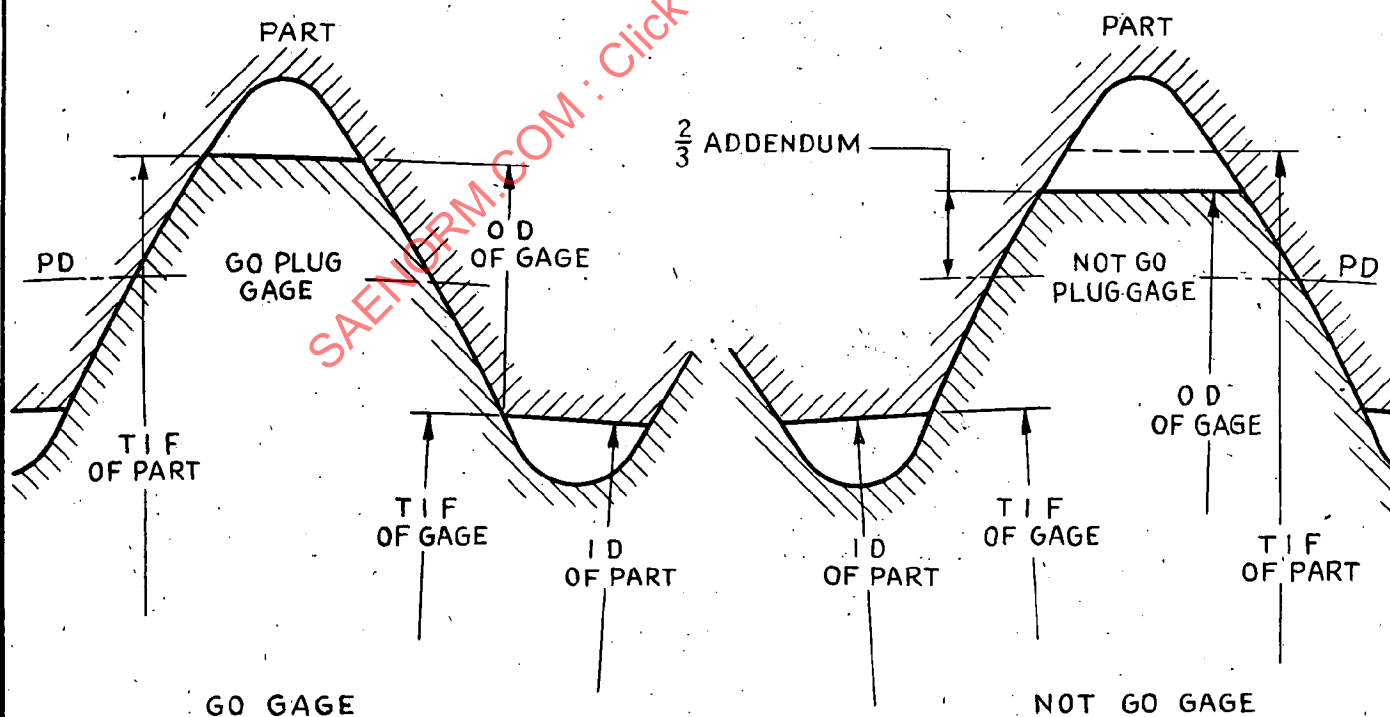

FIG 4
- C. Figure 4 shows the relationship of the plug gage to the internal spline it is to check.